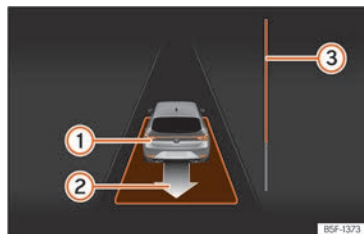

Fig. 201 On the instrument panel display: exit a parallel parking space.
- Reverse until the continuous ParkPilot signal sounds; **OR:** reverse until the instrument panel display shows the forward indication. The progress bar  **Fig. 201**  indicates the distance to cover  **page 288.**